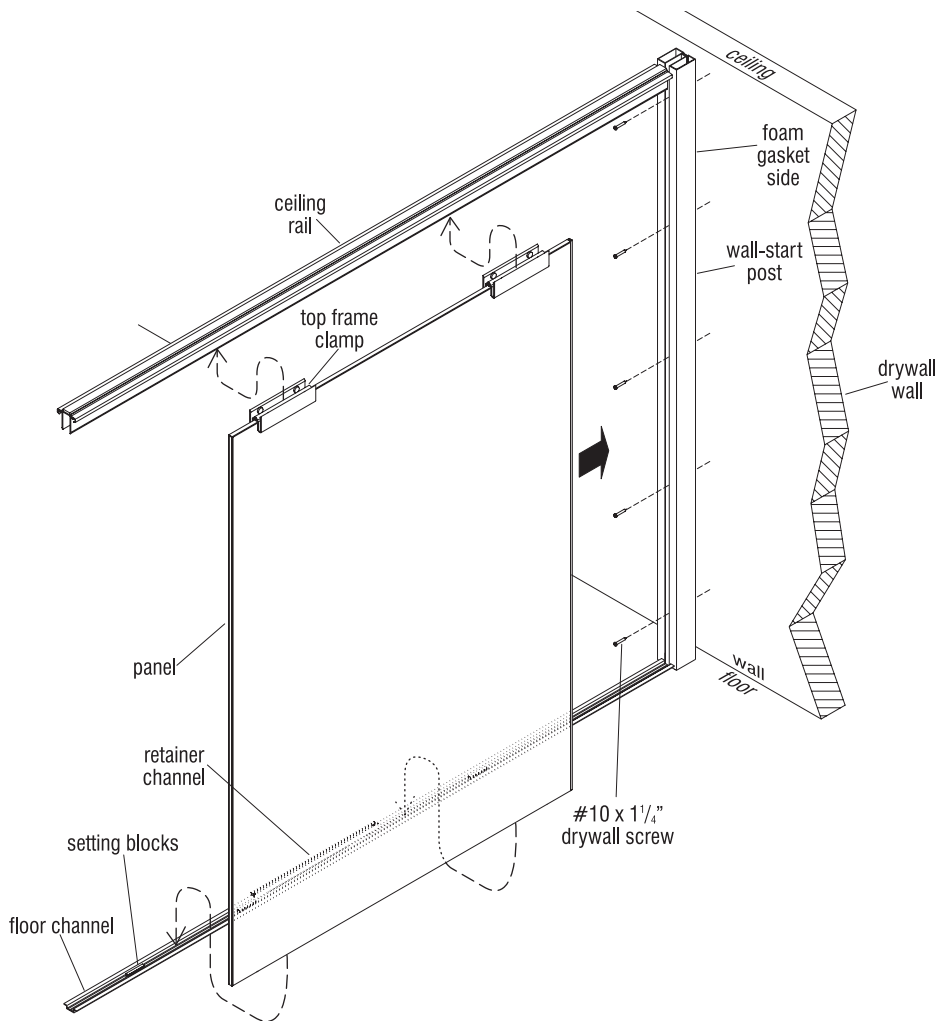

Figure 1
2. Transfer the measurement to the wall-start post and cut the post to size at the end opposite the "notched end" (Figure 1).
3. Position the wall-start post plum against the wall centered with the ceiling rail, with the foam gasket side against the wall and the notch end at the floor over the floor channel. Secure using five drywall screws evenly spaced (Figure 1).